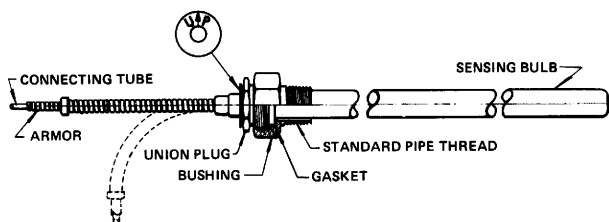

Figure 4. Standard type bulb for temperature control of liquids.
The bulb for liquid control is of smooth tubular form with I.P.S. threaded bulb bushing as shown by Figure 4. To install this bulb, loosen union plug until the bulb bushing turns freely on the bulb. Insert bulb and bulb bushing into the selected opening and screw the bulb bushing up tight. Turn bulb until arrow on head plate points UP. Tighten union plug. Bulb bushing can be removed from bulb by screwing union plug all the way out and in like manner bulb may be removed from installed position without disturbing bulb bushing.
The bulb is a fin type or coil type for greater sensitivity. Bulb should be installed at right angle to the air movement and at a location where average temperatures are encountered. See Figures 21, 22 and 24. Preferably, the bulb should be installed horizontally but it may be installed vertically or at any angle between these positions providing the tube end is uppermost—never install bulb with tube end down unless specifically ordered for such installation. See Figure 5. Some bulbs have a plate attached (See Figure 4) to the tube end indicating that the bulb should be installed with the arrow pointing upward when the bulb is installed in any position "RIGHT".
To install, insert well into the selected opening and tighten. Insert bulb in well and tighten union plug (Figure 4). Be sure arrow is pointing up as plug is tightened.
1. Remove regulator bulb from its location by screwing union plug (Figure 4) all the way out.